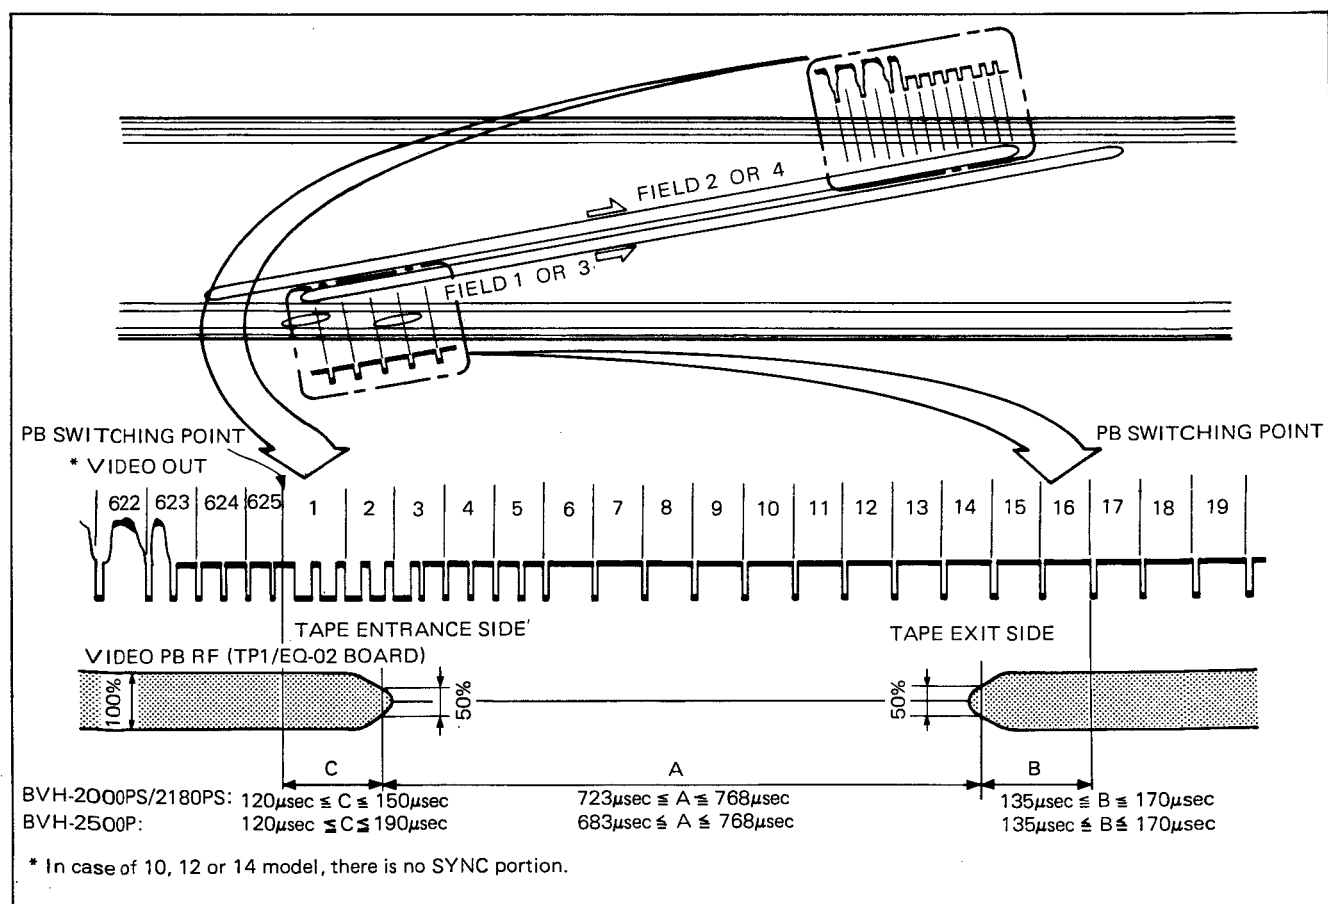

Fig. 10-25. Overlap Adjustment
5. Play back the recorded segment and check that overlap B and C is within the range shown in Fig. 10-25.